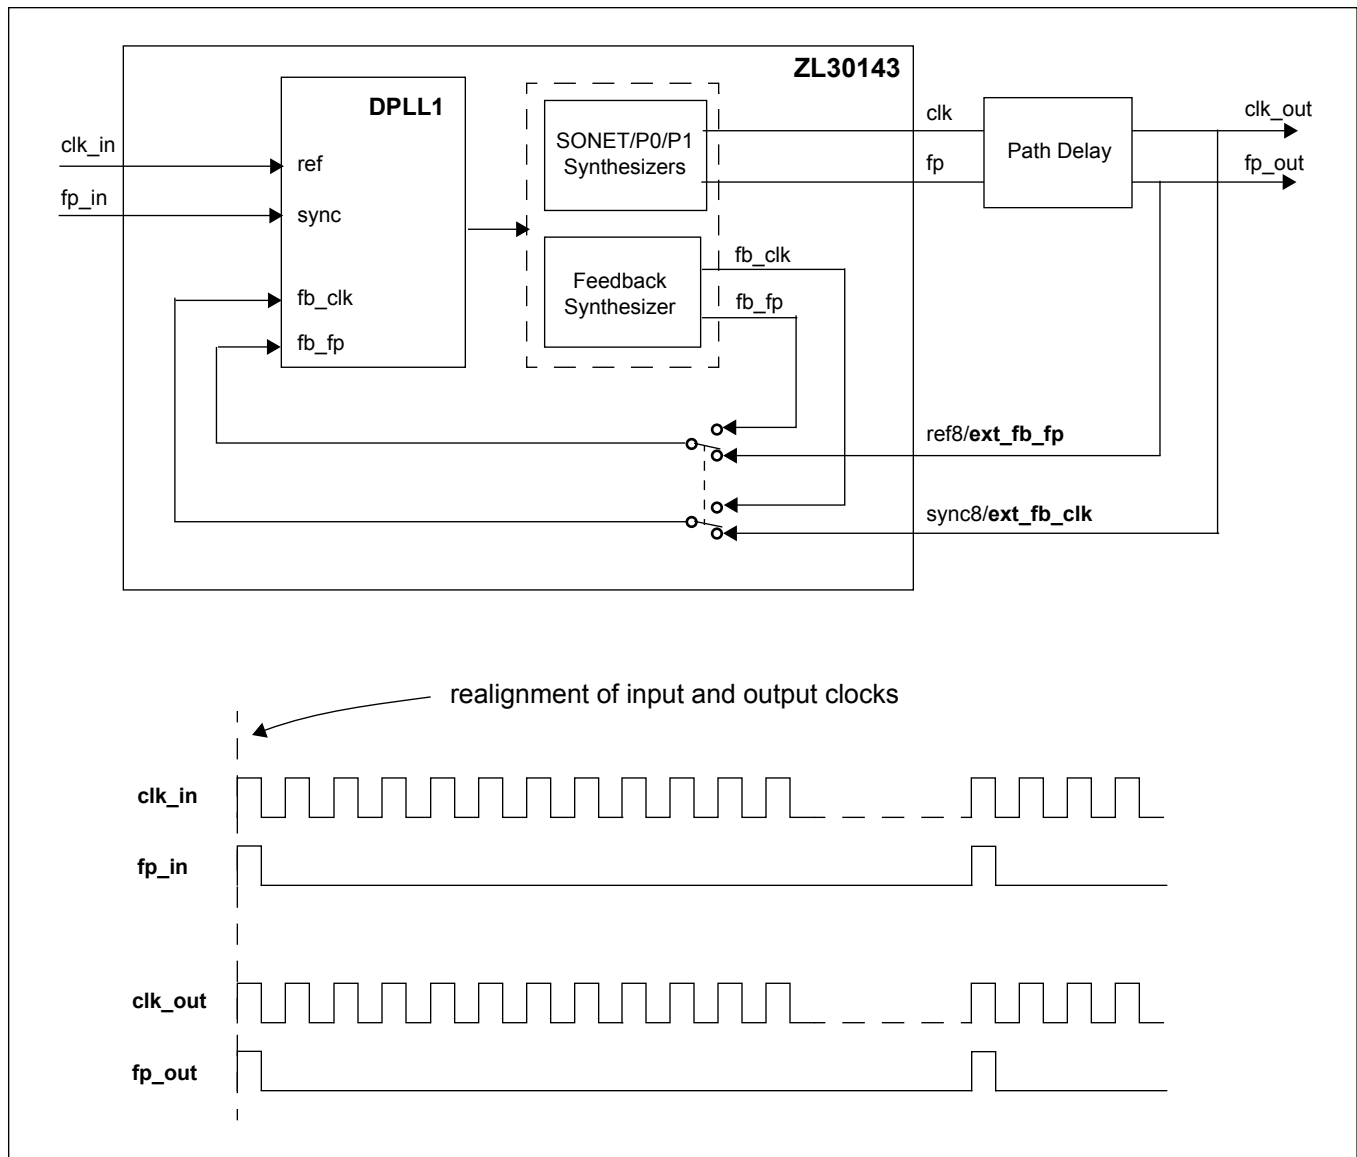

Figure 20 - External Feedback Configuration
In addition to the static delay compensation described in the “Configurable Input-to-Output and Output-to-Output Delays” section on page 38, the ZL30143 also provides the option of dynamic delay compensation to minimize path delay variation associated with external clock drivers and long PCB traces. This is accomplished by re-directing the internal DPLL1 feedback path to external pins and closing the loop externally as shown in Figure 20. The *ext\_fb\_clk\_en* bit of the *fb\_control* register (0x62) controls if the feedback path is internal or external. The *ref8/ext\_fb\_clk* and *ref8/extfb\_fp* pins must also be configured as *ext\_fb\_clk/pf* pins using the *fb\_ref8\_sync8\_ctrl* bit of the *fb\_control* register (0x62).